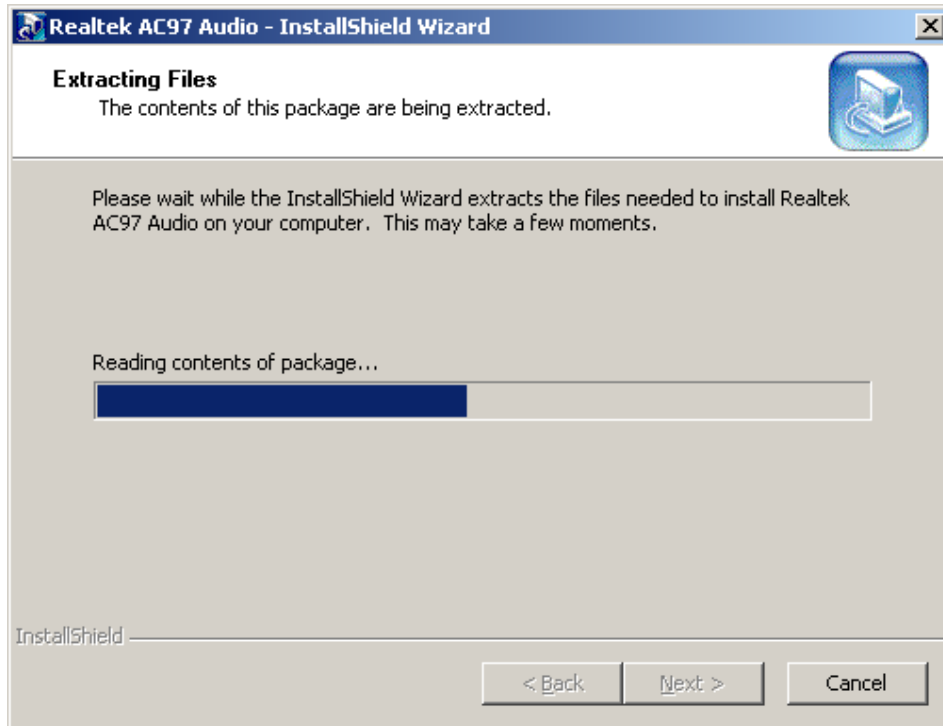

Figure 6-1: InstallShield Wizard Extracting Files
- Step 1:** Insert the Utility CD that came with the motherboard into the system CD drive. Open the **X:\4-Audio** directory (where **X:** is the system CD drive) and double-click the **WDM_A384.exe** installation file to begin extracting files (**Figure 6-1**).